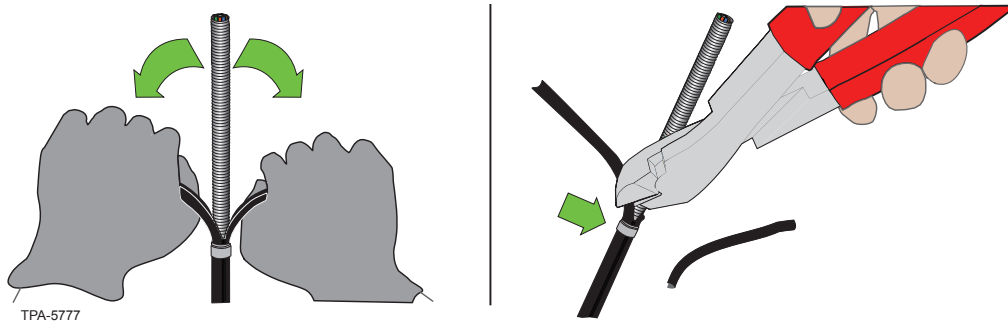

Figure 7
**Step 7:** Continue to remove the jacket by pulling both sides down to the tape mark and remove the jacket with side-cutter or small snips (Figure 7).
**Step 4:** After the last 1-in cut, either use fingers, splicer's tool, or Ideal® tool round blade to pull jacket away from cable. See Figure 7.